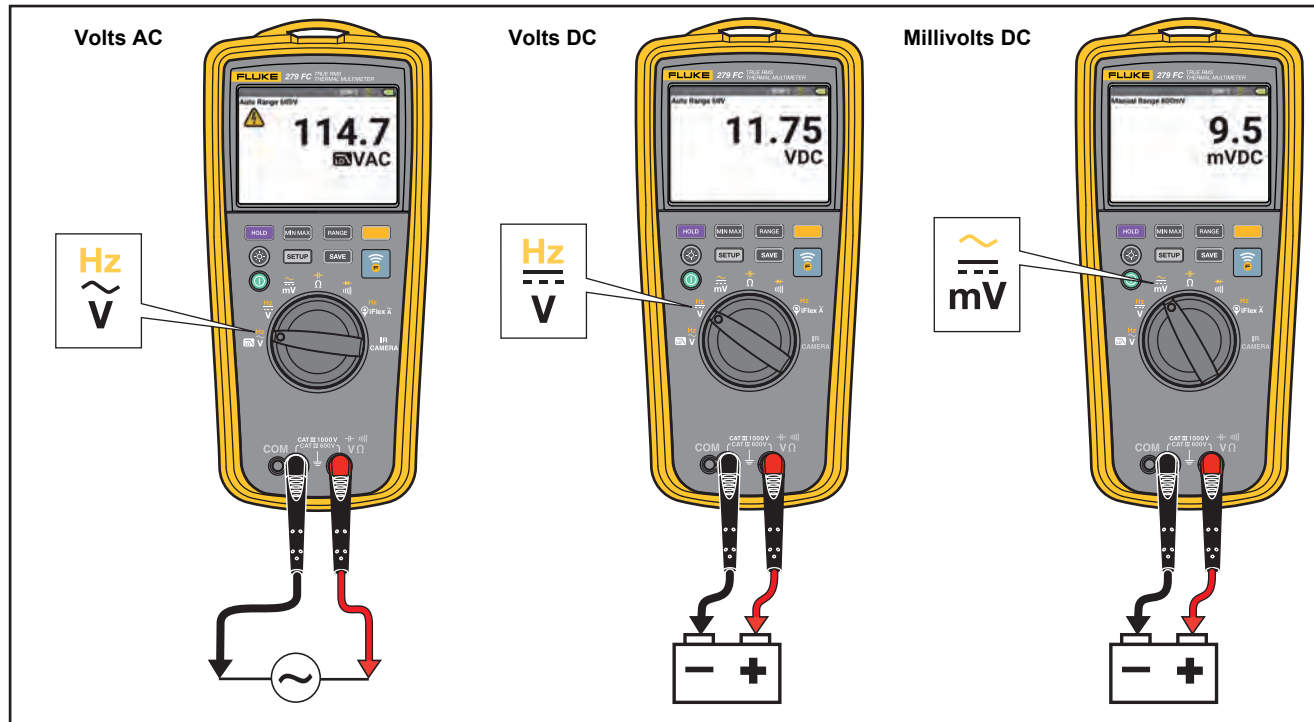

Figure 4. AC and DC Voltage Measurements
- AC and DC Voltage Measurements. See Figure 4.
1. Turn the rotary dial to \approx . See Figure 4.